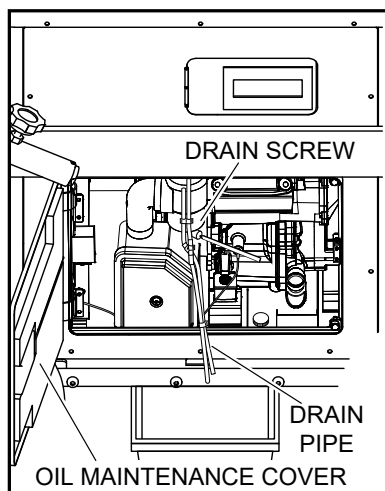

Figure 37. Carburetor Fuel Drain
13. Open the oil maintenance cover (Figure 37).